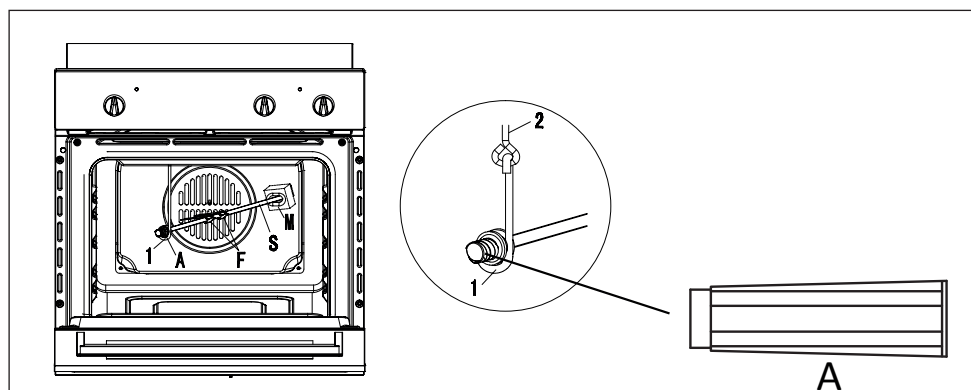

Fig 6
- Position the spit support as shown in (fig. 6)